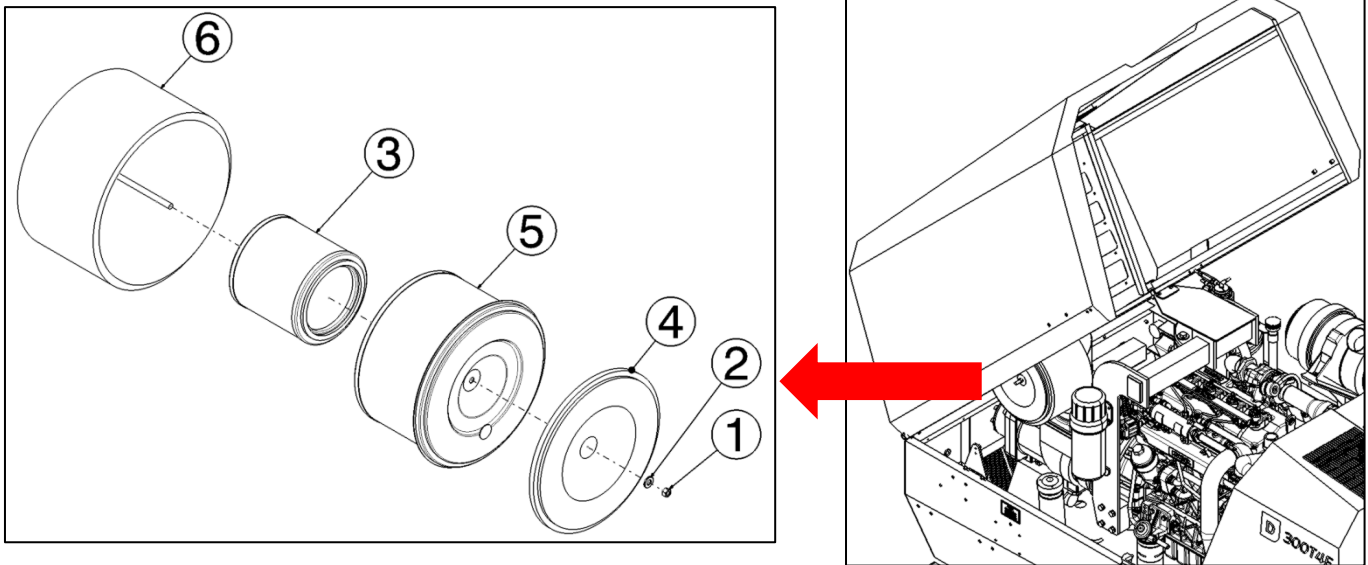

Figure 13.4-1 Aspiration air filter
1. Loosen the nut (fig.13.4-1 part 1 – 2 washer)
2. Remove the lid (fig.13.4-1 part 4)
3. Extract the cartridge of the 1st stage (fig.13.4-1 part 3)
4. Should any traces of dust be noticed on the cartridge of the 2nd stage (fig.13.4-1 part 5), extract this one also